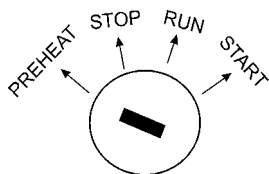

Figure 40. Ignition Switch 'PREHEAT'
7. Turn the ignition key to preheat (Figure 40), until the preheat indicator turns on.